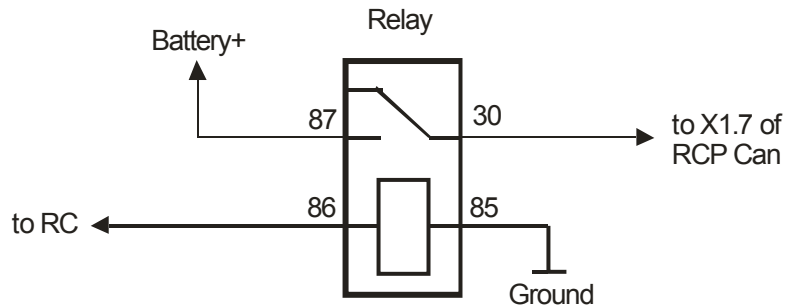

Figure 7
- The input RC_in is intended for connection of specialized remote controls such as DEFA Smart Start, Hydronic Easy Start, Webasto Telestart. If a problem exists with direct connection of the remote control output line to the input RC_in, it is recommended to make a connection by the scheme at the fig.7.